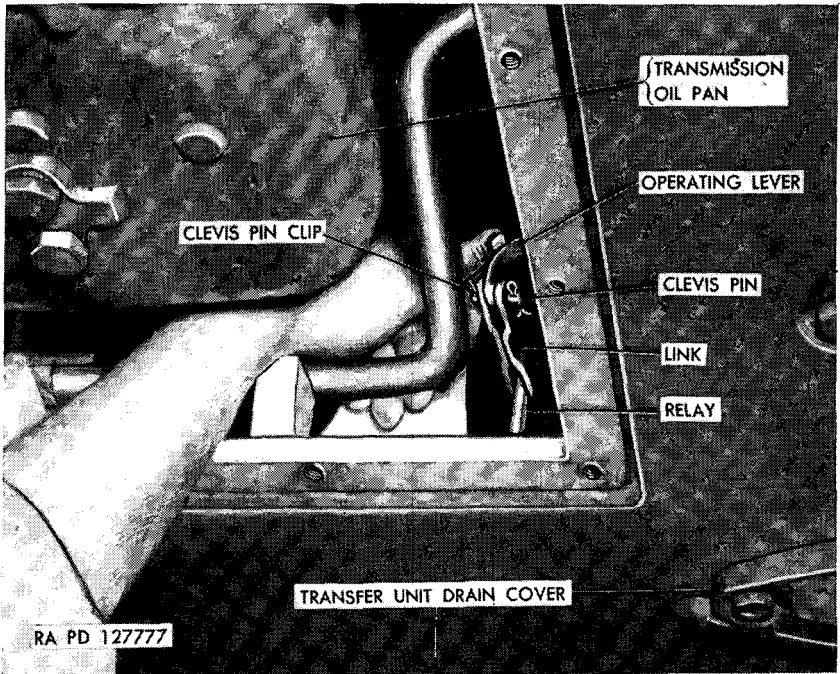

Figure 49. Disconnecting left transmission operating lever (through left rear hull floor cover).
(13) *Disconnect manual control shifter shaft* (figs. 49 and 106). Working through hull floor opening (fig. 49), remove clip and clevis pin that hold operating lever to connecting link (relay lever to operating lever link) on rear relay (fig. 49). The right floor opening permits access to the right lever and the left opening to the left lever.
not line up with the hole in the connecting link, loosen clamp screw on adjustable shaft and slide shaft in or out until clevis pin holes line up. Tighten clamp screw and install clevis pin and clip (figs. 49 and 106).